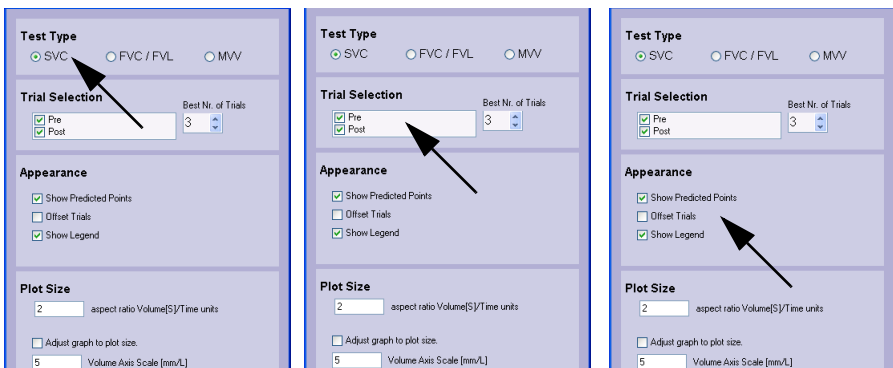

Fig. 10-9: Fenster „Spiro Graph Configuration“
- Click **Run Designer**. The Spiro Graph Configuration window will be displayed (Fig. 10-9:).